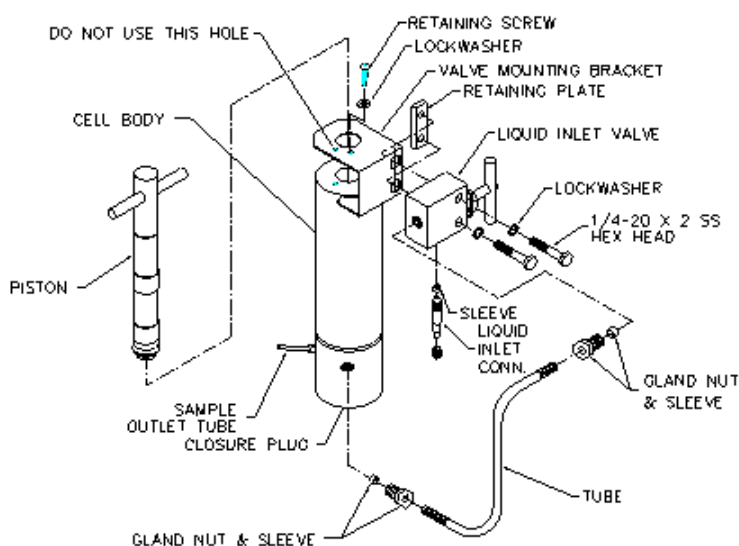

Figure 15
This rapid-fill kit converts to a manual-fill (FA-032) pressure cell into a rapid-fill pressure cell. Use the exploded diagram to reference the parts (see Figure 15).
8. Install the remaining parts of the cell: piston, flow valve, sample outlet tube. See Figure 15 for a more detailed description of the manual-fill assembly.